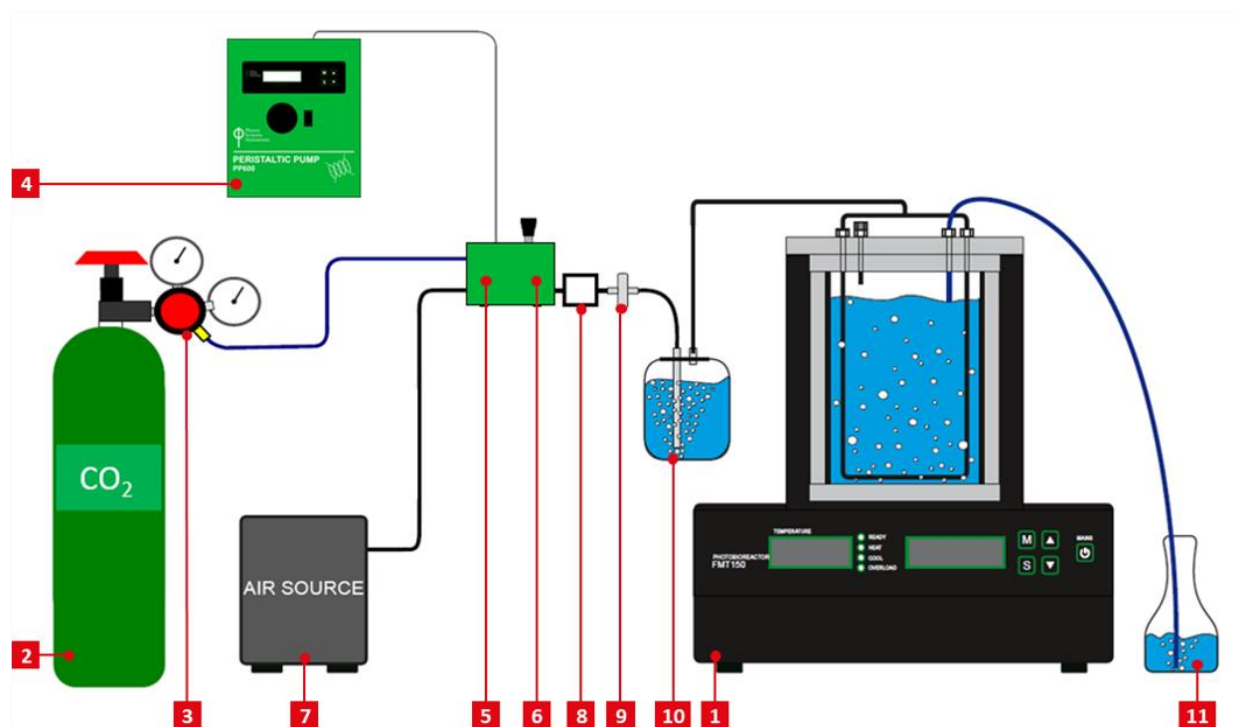

Fig. 42 Final assembly of the pH stat module.
6. Connect the output Parker tubing containing the final mixture of CO₂ and Air via the silicon tubing with the bubble interruption valve and humidifier as shown on Fig. 42.